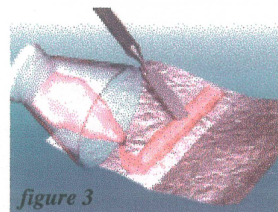

figure 3
1. Cut the appropriate length of *Perma Fiber* (figure 2). Reinforce only the area subject to fracture. Make a thin or low viscosity **mixture of monomer liquid and acrylic powder**. Cut a piece of tin foil to receive the reinforcing fibers and place the fiber on the tin foil. Pour the thin mix of powder and monomer over the reinforcing fiber on the tin foil. See figure 3